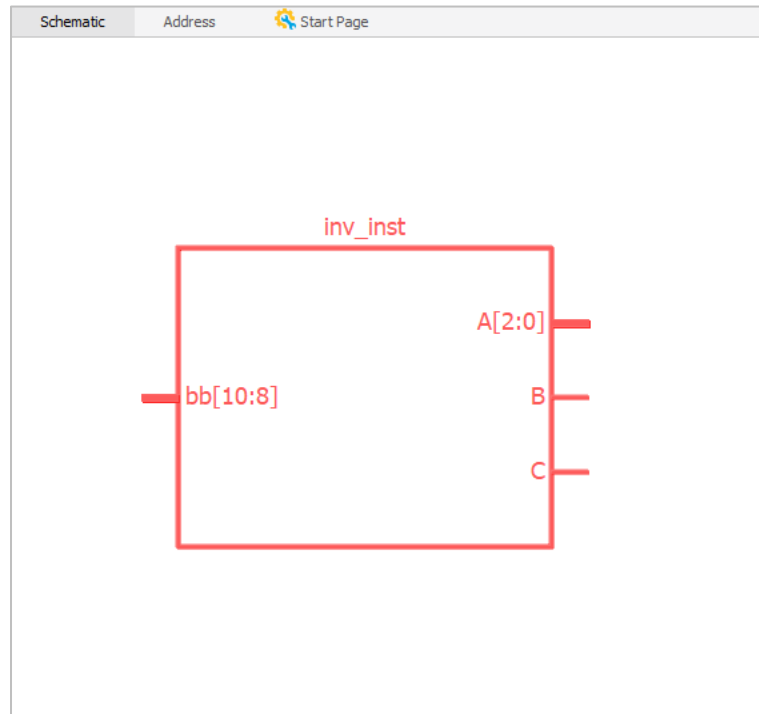

Figure 2.61. Schematic View Shows the Custom RTL Module
- Click **OK**. The schematic block for the RTL module in red appears in the Schematic view (Figure 2.61).